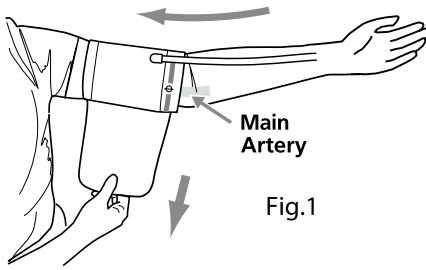
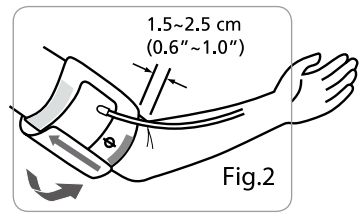

Fig.1
Fig.2
2. Put your left arm through the cuff loop. The color strip indication should be positioned closer to you with the tube pointing in the direction of your arm (Fig.1). Turn your left palm upward and place the edge of the arm cuff at approximately 1.5 to 2.5 cm above the inner side of the elbow joint (Fig.2). Tighten the cuff by pulling the end of the cuff.